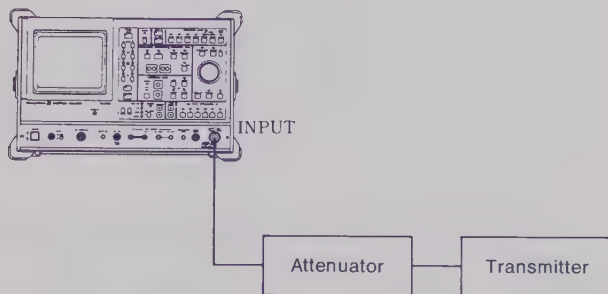

Fig. 3-9 Set-up for measuring modulation signals
Step 1 Connect the AM transmitter output to the spectrum analyzer INPUT connector via an external attenuator if necessary. (See Figure 3-9.)